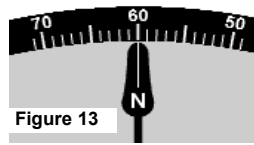

Figure 13
8. Read azimuth where the "N" end of the needle points at graduated circle. (Fig 13)